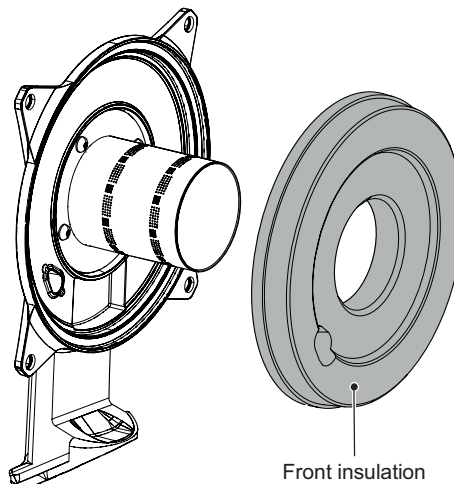

Figure 17.3
- 2 Remove the front insulation panel by sliding it forward (Figure 17.3).